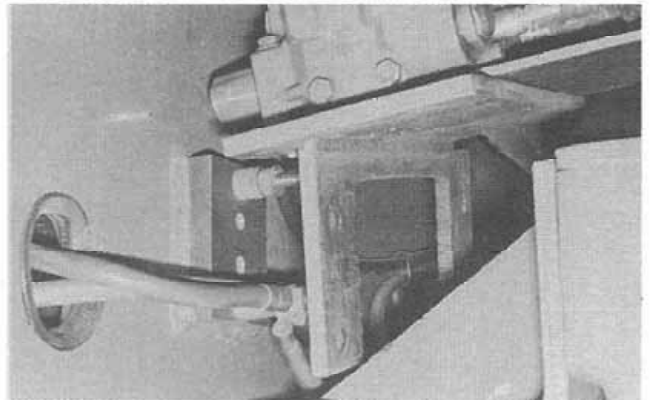

Figure 10:
12. At the electrical terminal block inside the frame, remove the two (2) battery ground cables from the stud (Fig. 10), and proceed to remove the valve bracket from the side of the transfer case.